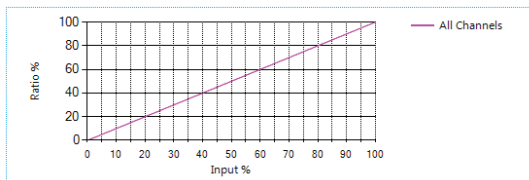

Figure 14: INT Mapping graph for all channels
*Tip: Scroll to the bottom of the window to see graphs (shown in Figures 14 & 15) of the current INT mapping configuration.*